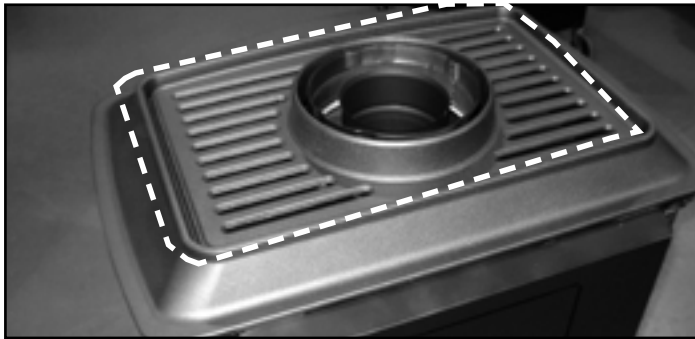

Figure 1.
1. Remove top grille, as highlighted in Figure 1.